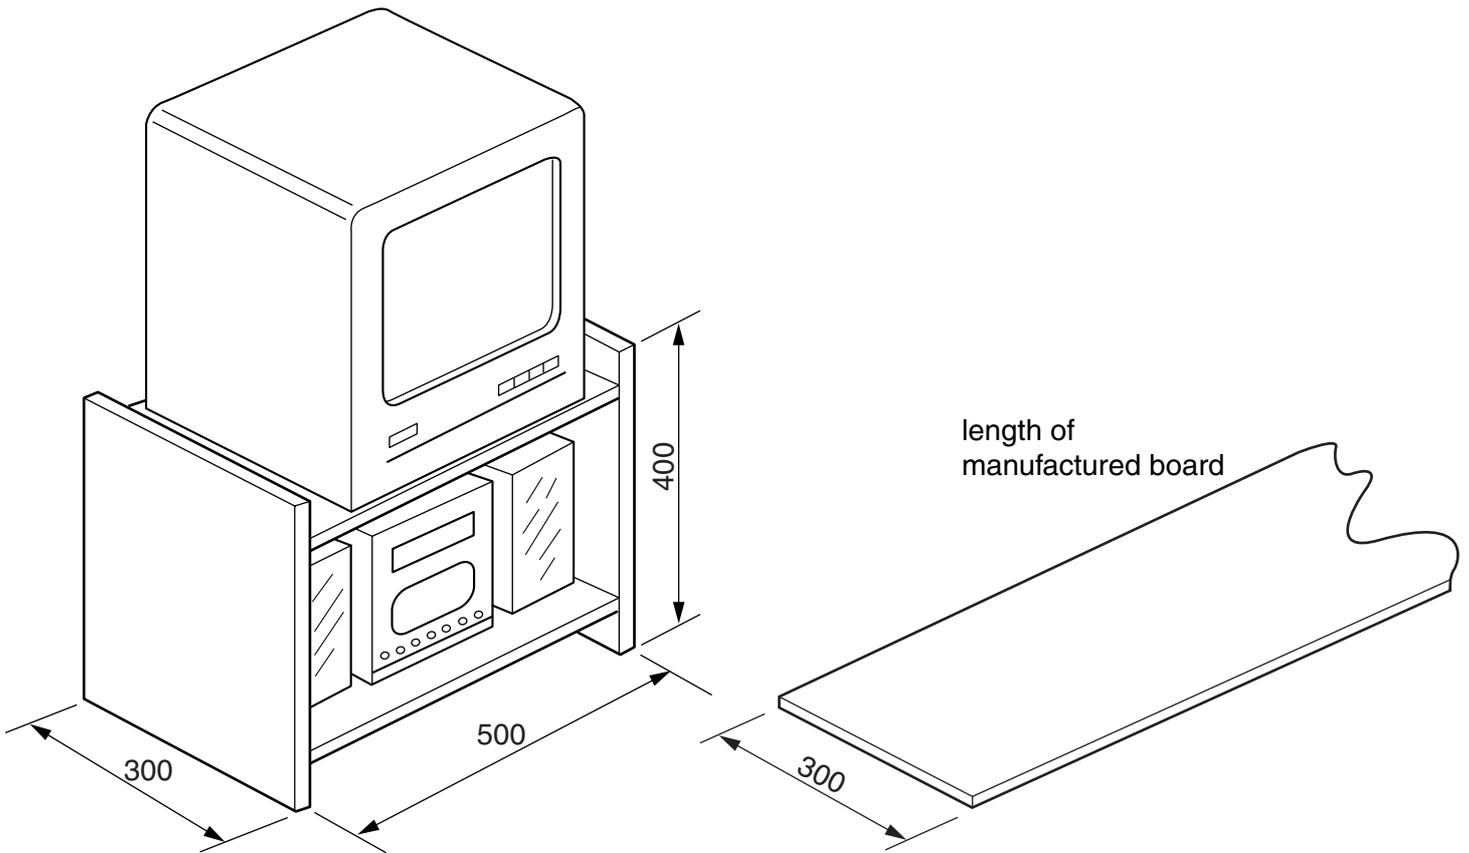

Fig. 6
- 4 Fig. 6 shows a TV and Hi-Fi unit made from a manufactured board with a spray painted finish. The unit will be produced as a flat pack ready for home assembly from the lengths of manufactured board shown.